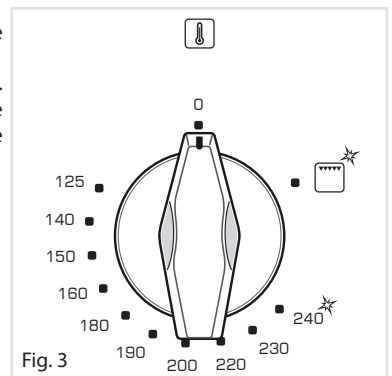

Fig. 3
The numbers printed on the control panel (fig. 3) indicate the increasing oven temperature value.
2. Press the thermostat knob throughly to start up the electric ignition and, keeping the knob under pressure turn it anti-clockwise (fig. 4) to the maximum position 240° (fig. 3).
- 2 Press the thermostat knob throughly to start up the electric ignition and, keeping the knob under pressure turn it clockwise (fig. 6) to position  (fig. 3).